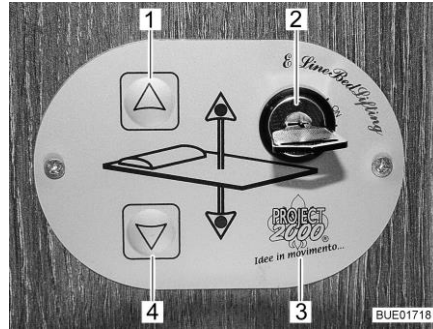

Fig. 105 Control unit
Control unit The pull-down bed is raised or lowered using the buttons (Fig. 105,1 and 4) on the control unit (Fig. 105,3). The control unit is protected against unauthorized use with the key switch (Fig. 105,2).
- Turn the key in the key switch (Fig. 105,2) by 90° in a clockwise direction to position "On". The control unit (Fig. 105,3) is activated.
- Press the arrow key (Fig. 105,4) and keep it pressed until the pull-down bed has moved down into the desired position.
- Press the arrow key (Fig. 105,1) and keep it pressed until the pull-down bed has moved down into the final upper position.